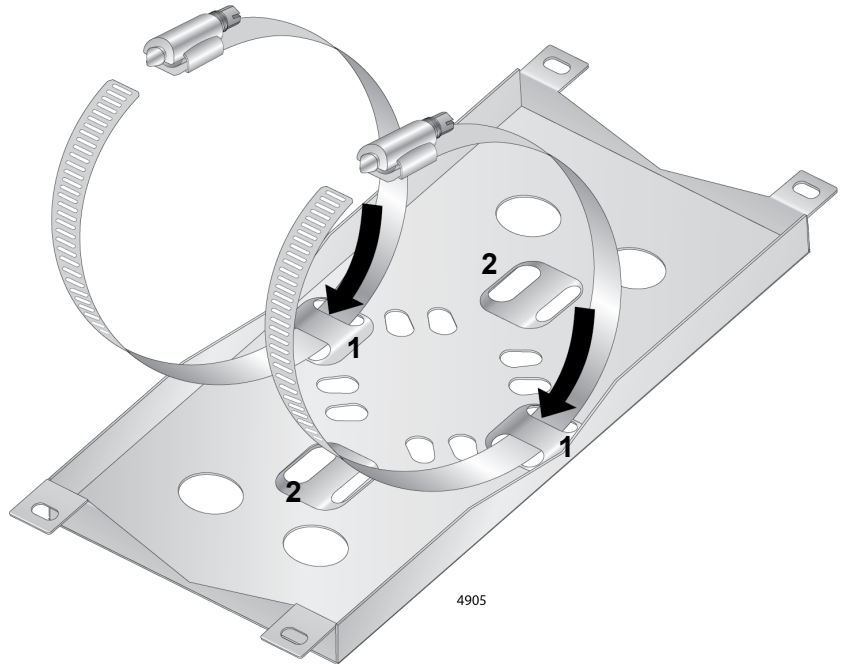

Figure 30. Threading the Pole Straps
3. Thread one pole strap through the holes marked 1 to attach to the mounting base. Repeat to thread the other pole strap. See Figure 30.
Figure 30 shows how to install the access point to a vertical pole. To install the access point on a horizontal pole, use the holes marked 2 to attach the pole straps to the mounting base.